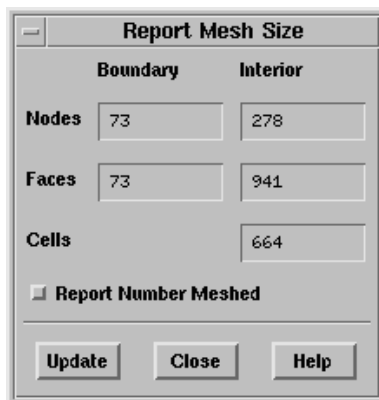

Figure 4.6.3: The Report Mesh Size Panel
*The number of cells is 664 (see Figure 4.6.3).*